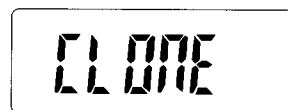

Figure 4-3 .
- 4 The master radio will display the following message (Figure 4-3) if cloning can proceed, otherwise an error message will be shown (refer to Table 4-1, **Cloning Error Messages**, on page 4-3).